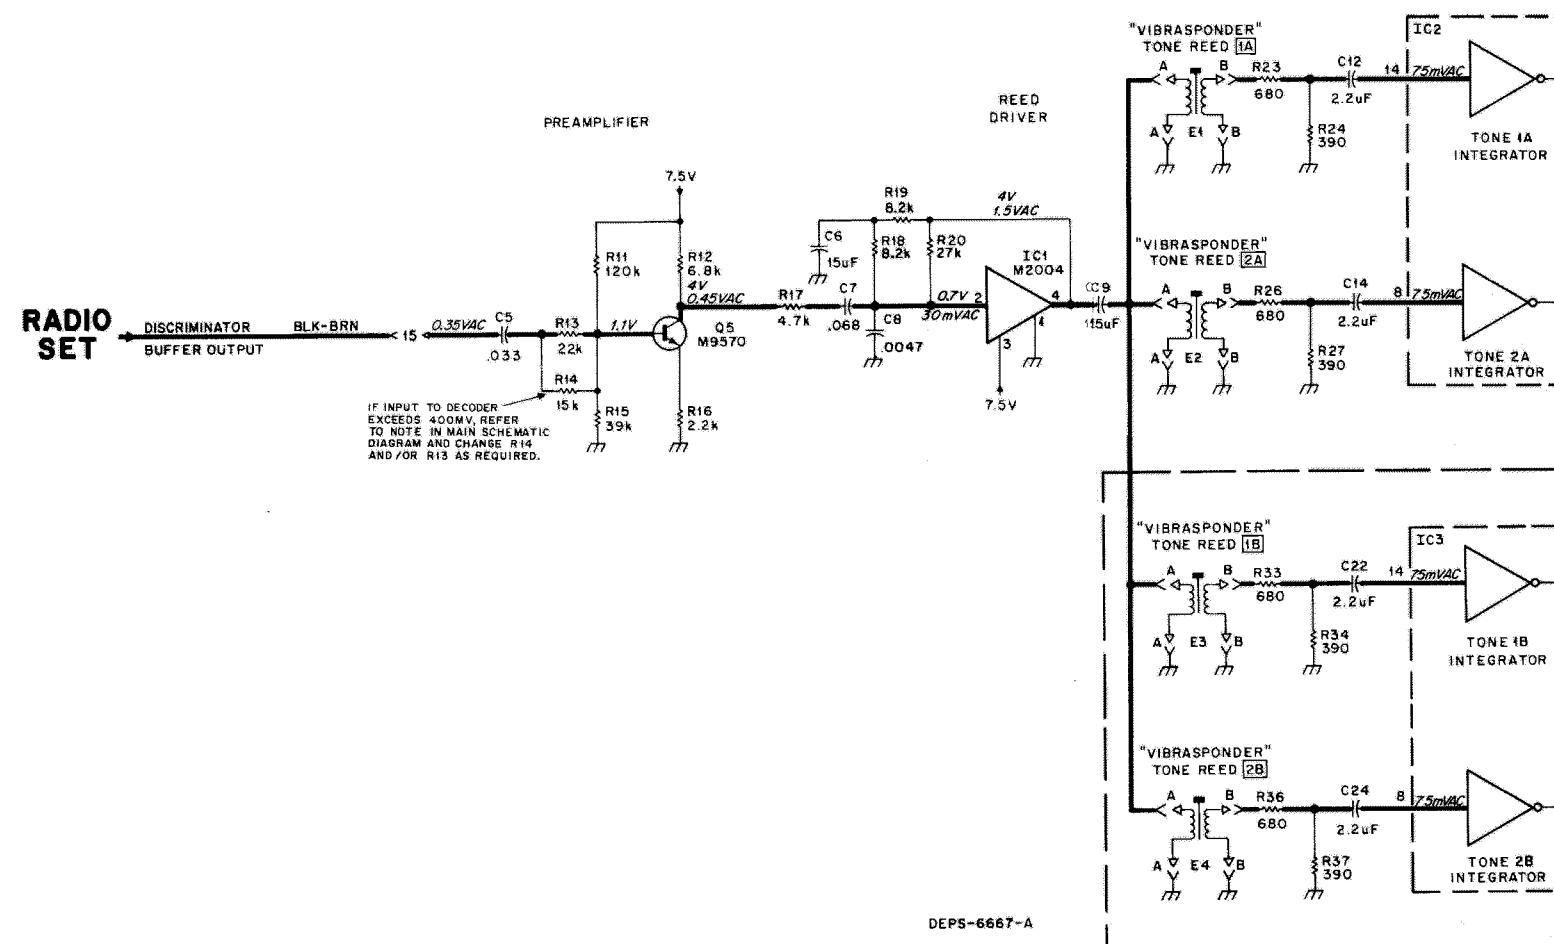

Figure 6.
a. Audio Input Circuit (Refer to Figure 6)